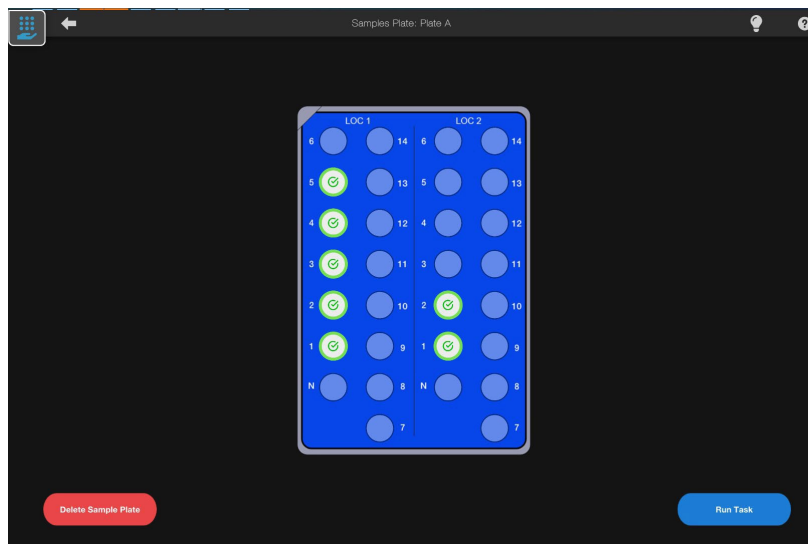

Figure 7.13 Deleting a sample plate
- Select the option "Delete Sample Plate" (Figure 7.13). This will delete all the entered samples and plate from the task queue